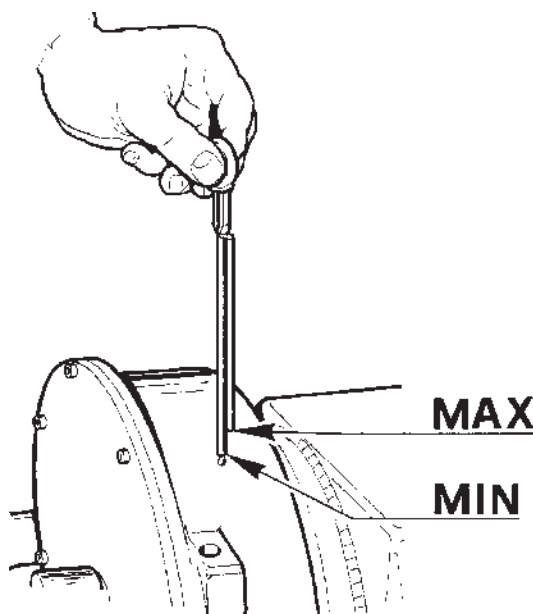

Fig. 36
2. Check gear oil once a week (Fig. 36). The chuck arm should be completely lowered when the check is performed.